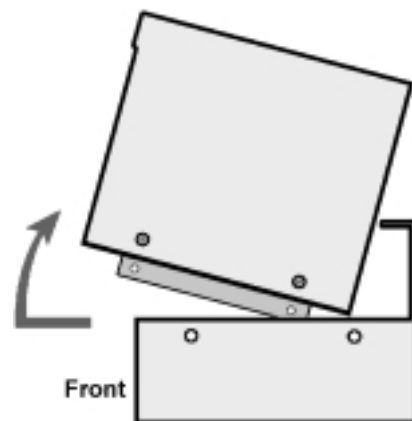

Fig. 3. Pull the Top Section Forward Then Rotate Up.
3. Slide the top section of the bin forward approximately 4 cm until the NIM connectors at the rear of the upper section have cleared the connector shield. Now gently lift the top section up and forward (see Fig. 3) until it clears the bottom section. **As you lift the top section, do not stress the wires that connect the two halves of the unit.**